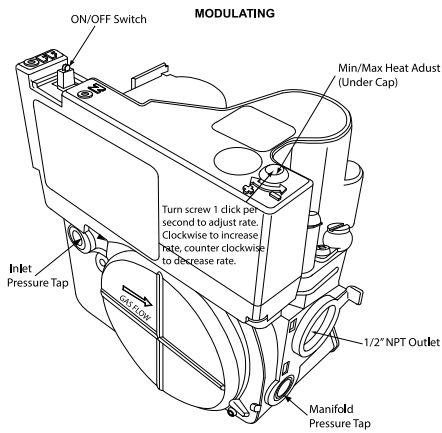

Fig. 62 – Gas Valve without Tower Pressure Ports
than one click per second until you obtain the required manifold pressure, see Fig. 62.
4. To adjust the Minimum Heat manifold pressure, slowly turn adjusting screw counterclockwise to decrease manifold pressure or clockwise to increase manifold pressure. Turn adjustment no more than one click per second until you obtain the required manifold pressure, see Fig. 62.